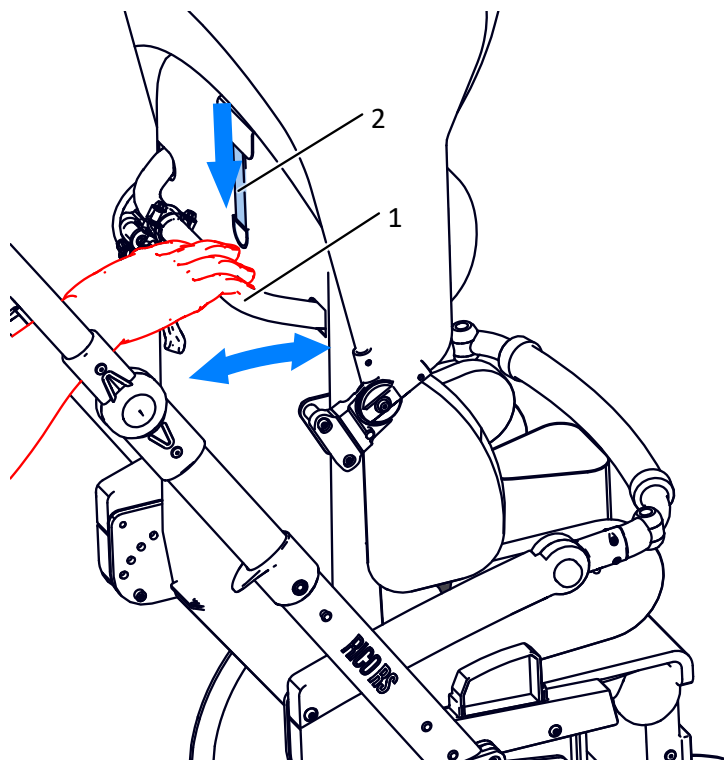

Fig. 16
(In order to adjust the angle of the backrest keep the crossbar (1) with one hand and pull the release belt (2) with the other hand Fig. 16. After setting the desired angle of the backrest, release the tape (2). Then move the backrest up and down to confirm that backrest in stable position. Never use when the backrest is loose.